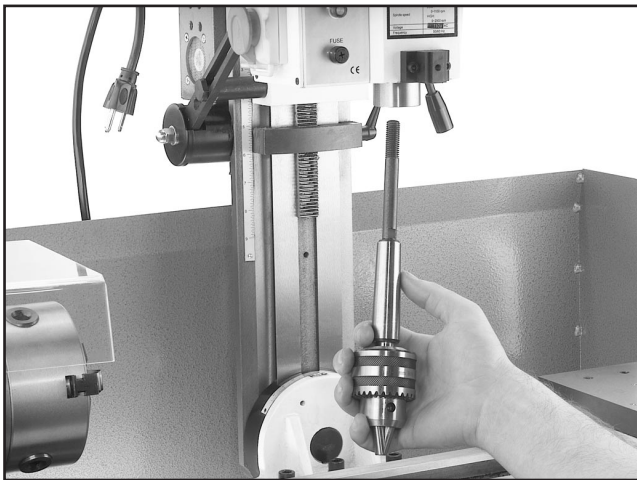

Figure 11. Removing drill chuck from spindle
6. Hold the drill chuck with one hand and remove the draw nut and washer with the other hand. The drill chuck should now be easily removed from the bottom as shown in **Figure 11**.